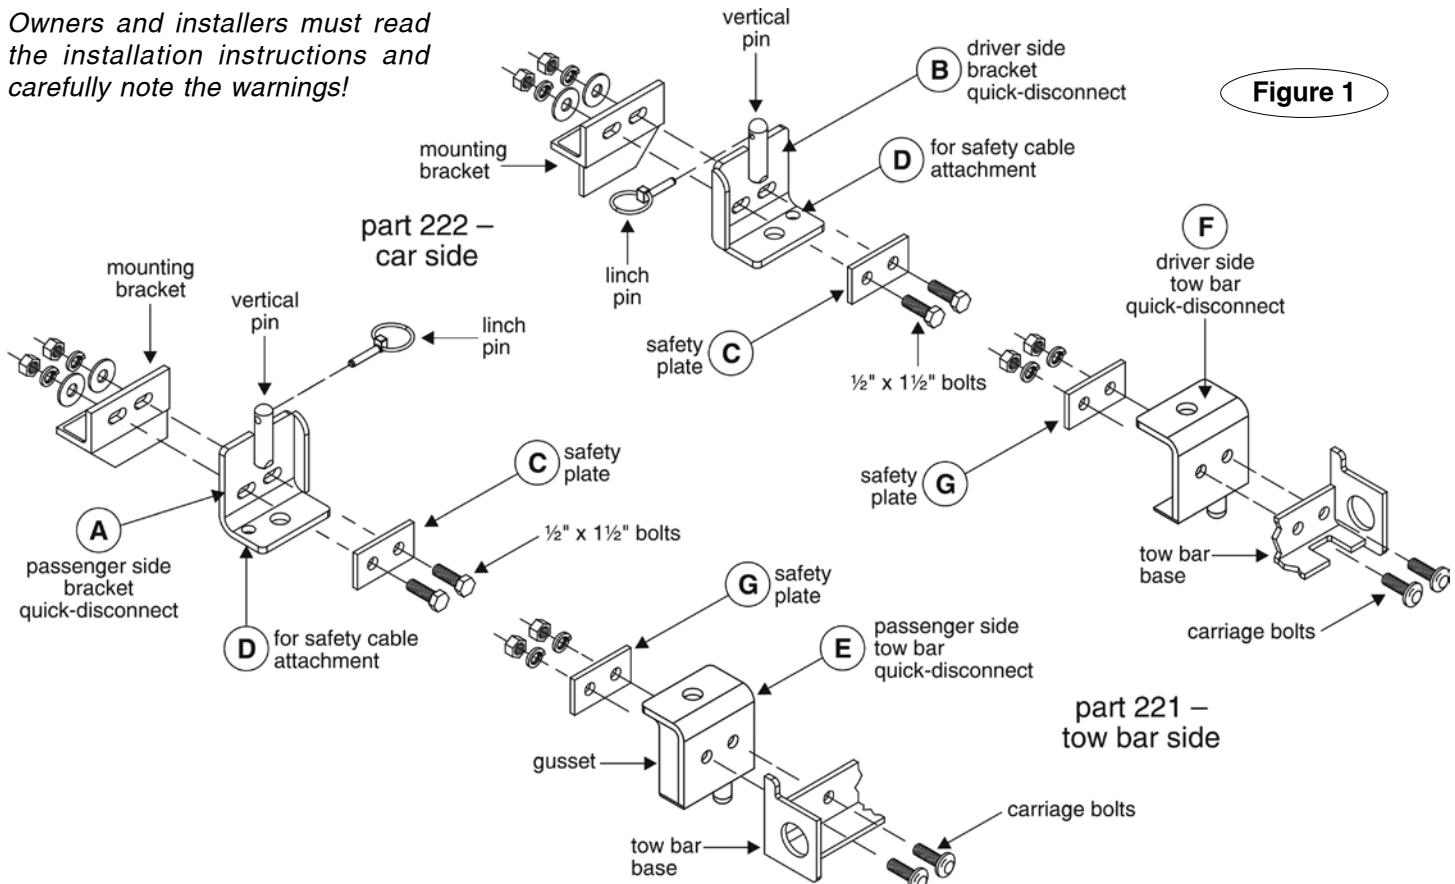

Figure 1
1. First, attach the bracket quick-disconnects ("QDs," parts "A" and "B" in Figure 1) to the tow bar mounting brackets. Attach the QDs so that the vertical pin on each is pointing up, as shown in Figure 1.
Attach part "A" on the passenger side, and part "B" on the driver side. Use the supplied  $\frac{1}{2}$ " x  $1\frac{1}{2}$ " bolts, the two safety plates (parts "C"), and the flat washers, lock washers and nuts, as shown in Figure 1.
Note that both bracket QDs have an extra hole – "D" in Figure 1 – for safety cable attachment. Mount parts "A" and "B" so that the "D" holes are to the outside.
Position the tow bar quick-disconnects ("QDs," parts "E" and "F" in Figure 1) over the carriage bolts.
Make certain that "E" is on the passenger side and "F" is on the driver's side – when positioned correctly, the gusset (Figure 1) will be to the outside.
2. Next, position the safety plates ("G" in Figure 1) over
3. Attach the QDs with the lock washers and nuts, as shown in Figure 1.